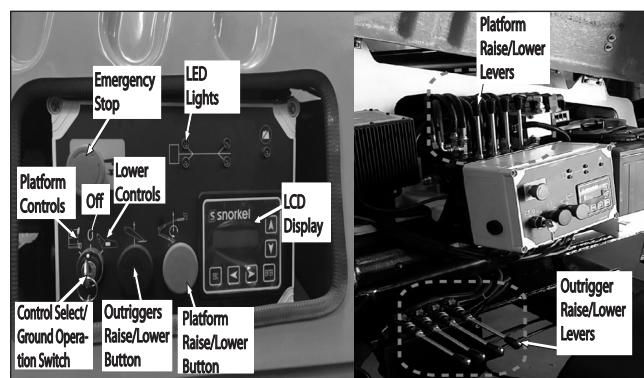

Figure 9.1 – Lower Control Station
1. Twist and pull the emergency stop button outward (refer to Figure 9.1).
1. From the lower controls, twist and pull the emergency stop button outward (refer to Figure 9.1).